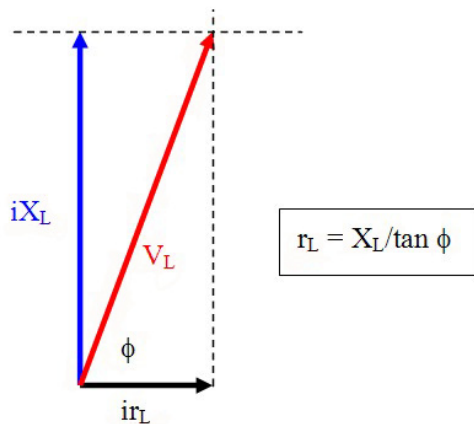

Figure 7: Effect of Inductor Resistance
6. We expected that the voltage across the capacitor should lag current by 90° and the voltage across the inductor should lead by 90° . While this is approximately true, your data should show both shifts to be less than 90° . This occurs because each component has some small internal resistance (heating the component) that behaves like a series resistor (and is frequency dependent). As shown in Figure 7, the voltage across the inductor is then the phasor sum of the current times the inductive reactance and the current times the internal resistance r_L . This results in a phase angle less than 90° . Use Figure 7 to calculate r_L for the resonance case. Draw a similar diagram for the capacitor and use it to calculate r_C at resonance.